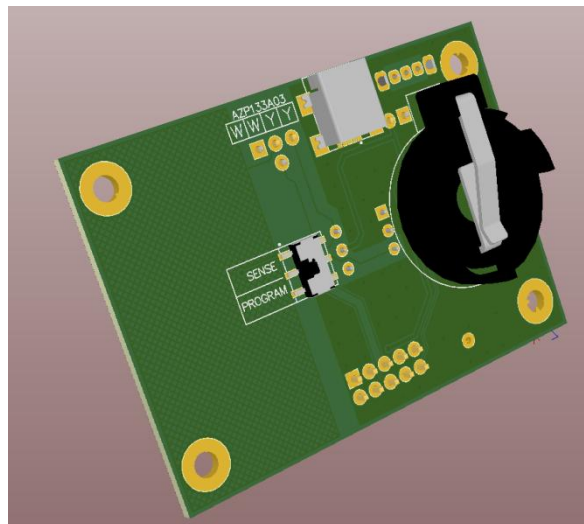

Figure 2.3 Bottom view of mother board.
- ☐ Slide switch for programming or streaming selection (See Figure 2.3).
Figure 2.3 shows the bottom view of the mother board. The daughter boards are powered by two 3V coin cell batteries, in series, which is regulated on the mother board to 4.5V. A ground pin and mini USB connector is also available to connect and review the effect of introducing larger ground references.